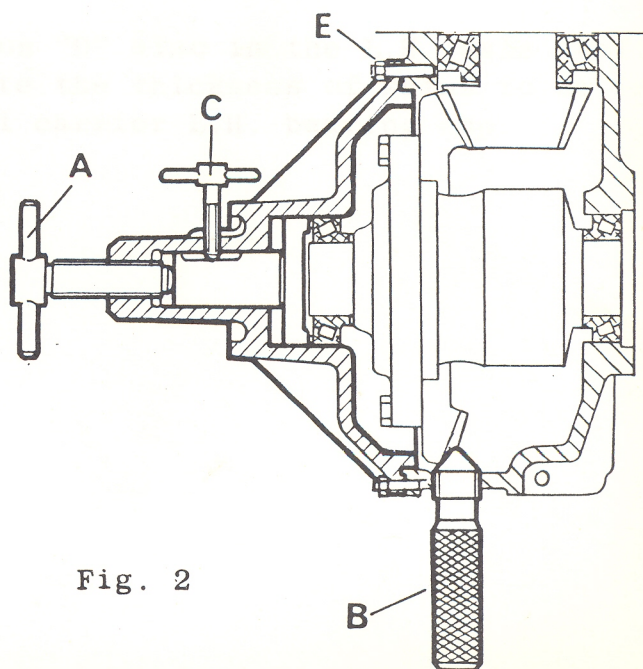

Fig. 2
- 1 Fit the tool as applicable in place of the L.H. axle shaft housing. To prevent misreadings, tighten firmly all nuts "E" (Figure 2).
- 2 Adjust screw "A" so as to obtain clearance and preload as specified. While taking clearance readings, lock the ring gear by means of setscrew "B" acting through the drain plug (Figure 2).